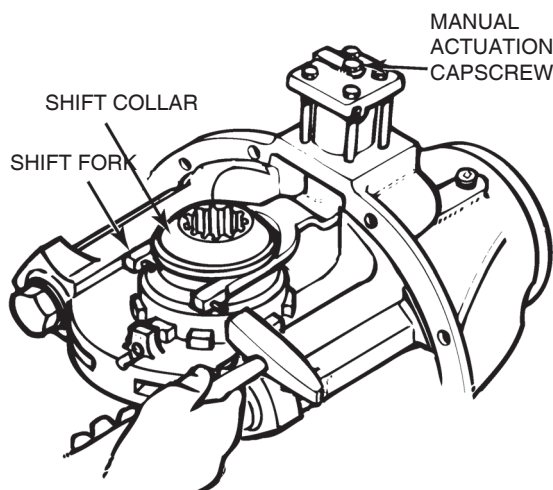

Figure 6.31
14. Hold the shift collar in the locked or engaged position and tap in the two roll pins in the shift fork ends until they are even with the outer fork faces. Figure 6.31.